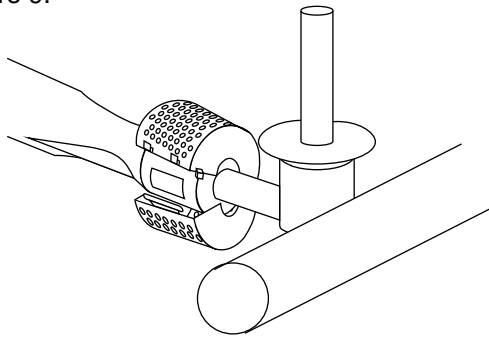

Figure 9
- d) Unlatch the Spider Stopper Guards and remove. Figure 9.